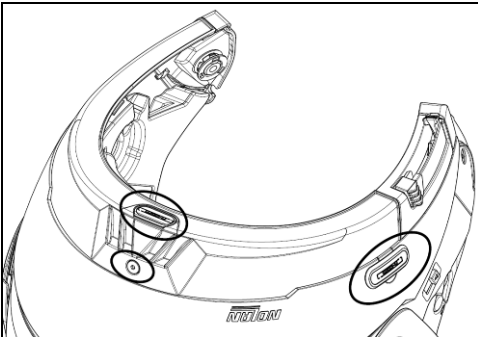

Fig. 2
- Remove the helmet edge gasket using the special tool (Fig. 2).
- Remove the “N-Com” plugs found at the back of the shell gasket and on the left side of the helmet (Fig. 2).